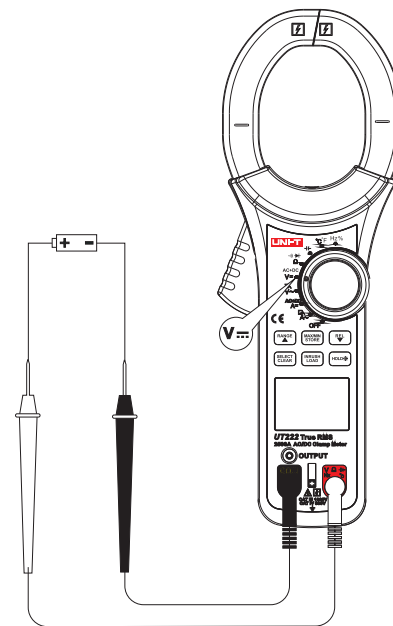

Figure 4
1. DC voltage measurement (See Figure 4)